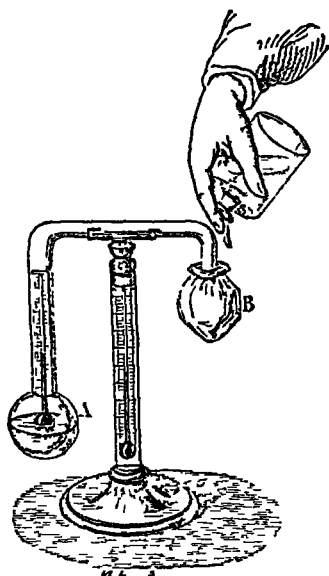

FIG 28
**DANIELL'S HYGROMETER** is a cryophorus containing ether and its vapour, a delicate thermometer is fixed in one bulb, A (fig 28), the bulb B is covered with cambric upon which ether is poured, the ether evaporates and cools B, the vapour in B condenses and evaporation takes place from A, therefore the temperature of A falls. When dew appears on A the temperature, as indicated by the enclosed thermometer, is taken. On ceasing to pour ether on B the temperature of A rises again. When the film of dew disappears the thermometer is again read, the mean of the two readings is the dew-point. The thermometer on the stem gives the ordinary temperature of the air.